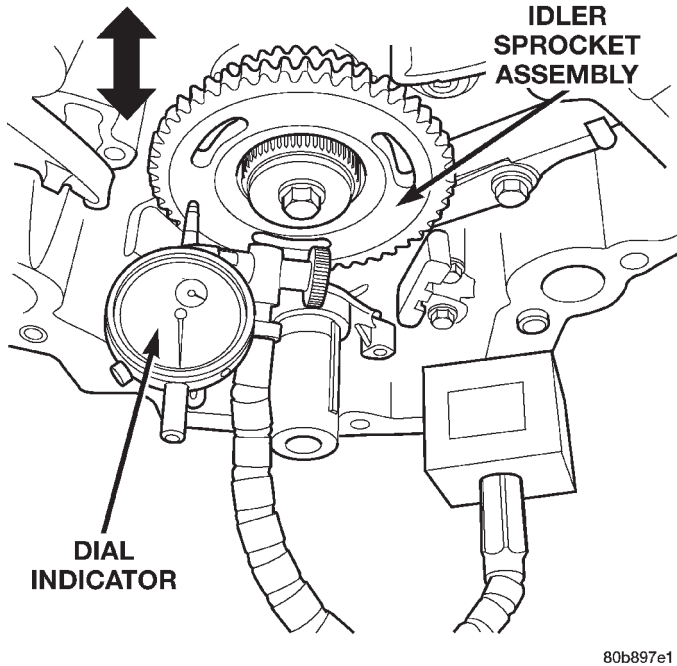

Fig. 74 Measuring Idler Gear End Play
- (20) Lubricate all three chains with engine oil.
- (21) After installing all chains, it is recommended that the idler gear end play be checked (Fig. 74). The end play must be within 0.10–0.25 mm (0.004–0.010 in.). If not within specification, the idler gear must be replaced.